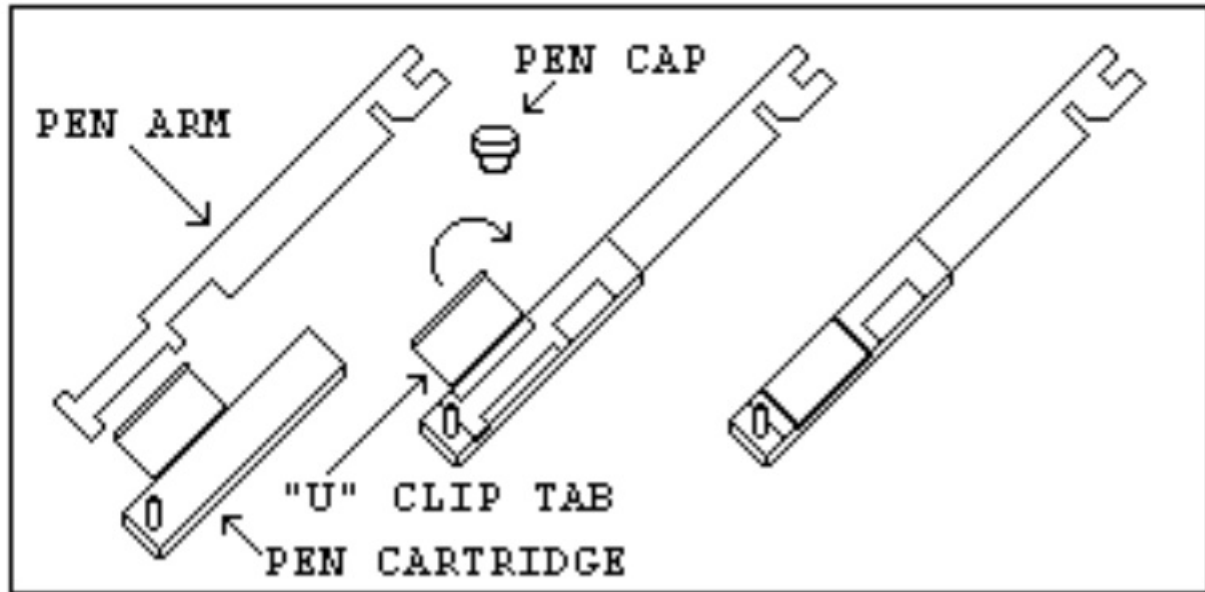

Figure 2.4 Pen Replacement
Press and release the CHANGE CHART key (3 in Figure 3.1). The pen(s) will move to the left of the chart and the green LED will flash rapidly. Wait until the pen(s) stops above the outer ring AND the green LED goes on steady. Unscrew the chart “hub” knob at the center of the chart. Remove the old chart paper and position the new one so that the correct timeline coincides with the timeline groove on the chart plate. Refer to Figure 2.4 for the location of the timeline groove.
pen cartridge. Replace the new cartridge by opening the hinge and snapping it securely around the metal pen arm. Refer to Figure 2.4 for pen cartridge replacement.